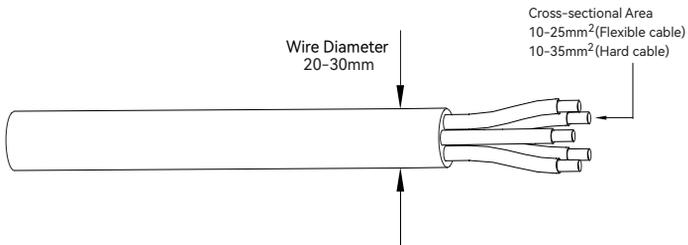

Figure 5-4
② According to the figure 5-4, select an appropriate cable, peel the insulation sleeve of AC cable off for 95-100mm, and peel off the end of 3L /PE / N wires for 15mm.